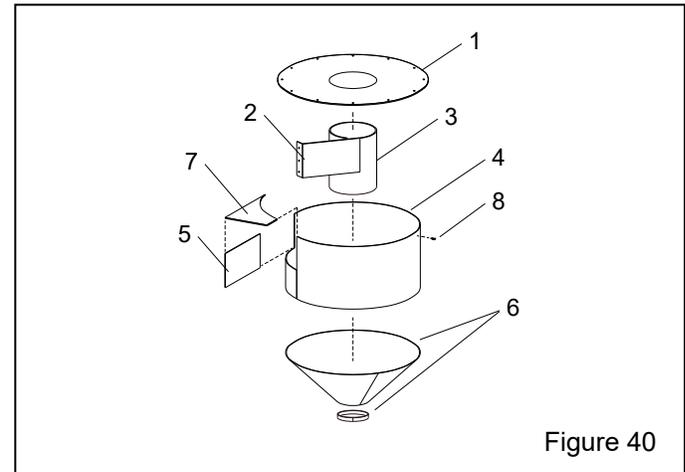

Figure 40
**Rubber Reclaimer Liners, 600 cfm only – Figure 40**